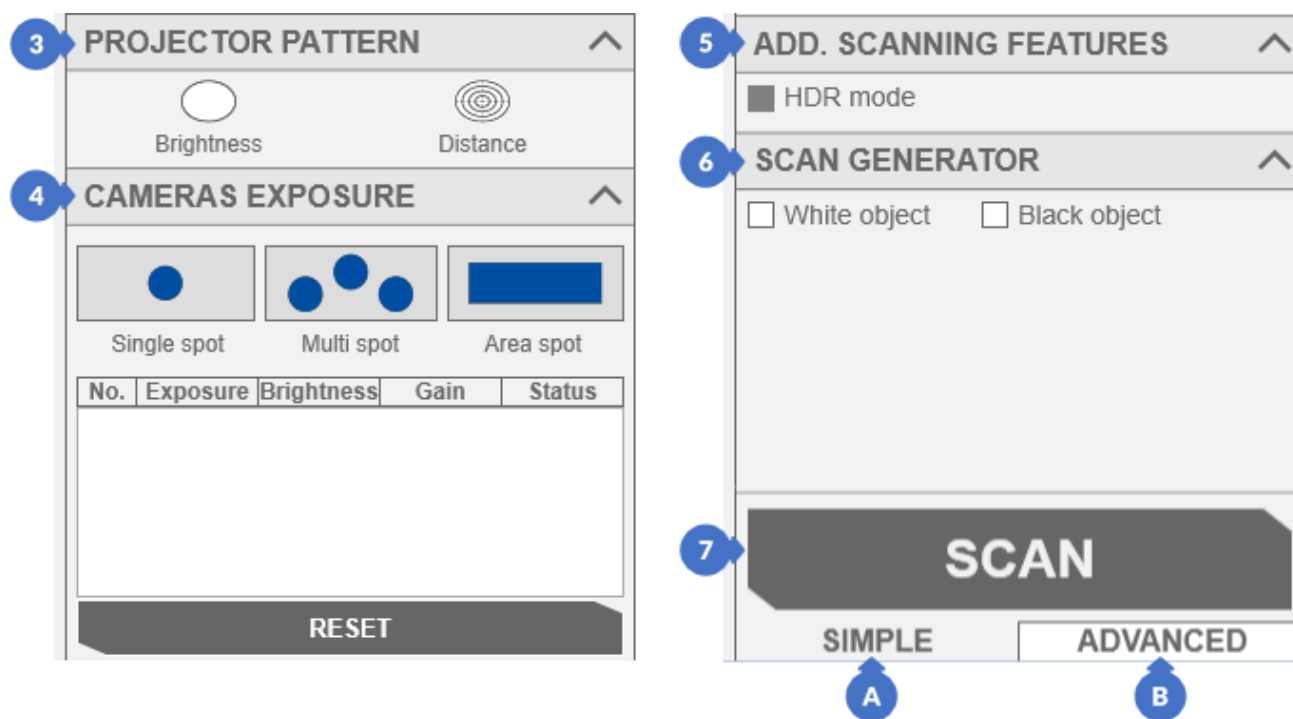

Figure 273. SIMPLE mode for scanning with markers
The *SIMPLE* (A) tab in the right panel has the following options (Figure 273):